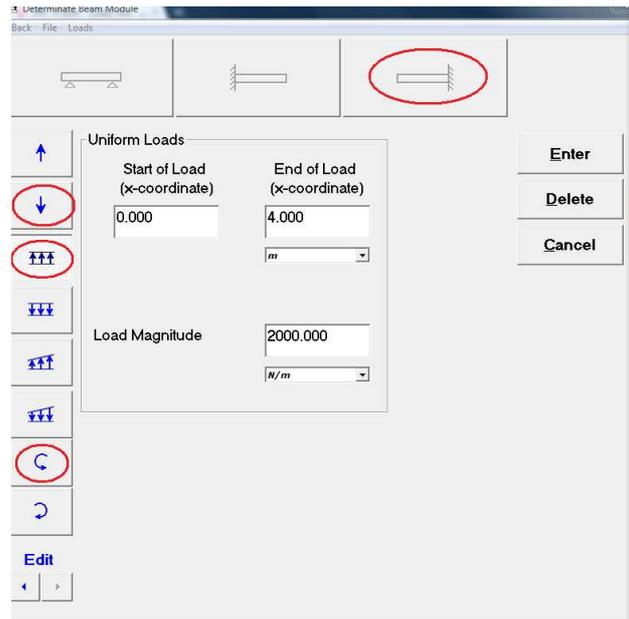

Figure 5 – Diagrams input loads menu
In MDSolids go the 'Determinate Beam' option at the main menu. Then click on the cantilever beam that is restrained on the right (1st encircled option down in figure 5) . Enter the length of the beam as 6m. Apply the forces shown in diagram 1 using the options on the screen.
- 1) In figure 5 all of the options that are needed are circled in red.